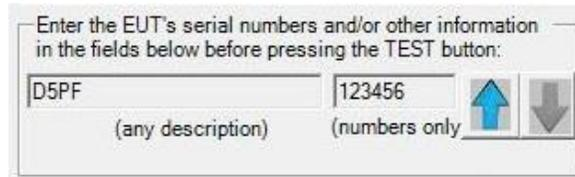

Figure 30 Name and SN box
- For reference, enter a Description and/or the EUT's Serial Number at the bottom center of the screen (Figure 30). The up and down arrows allow the user to increment or decrement a previously entered serial number without retyping.